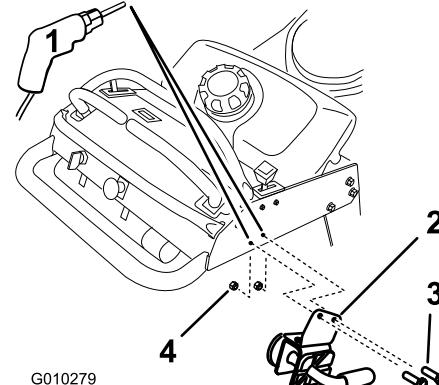

Figure 4
2. Drill holes to mount the handle. Using the bracket as a template, mark and drill 2 holes, 9/32 in diameter, on the right side of the handle. Center the holes on the tube and on either side of the reference bar (Figure 4).
2. Drill holes to mount the handle. Using the bracket as a template, mark and drill 2 holes, 9/32 in diameter, on the right side of the handle. Center the holes on the tube and just below the control panel (Figure 4).